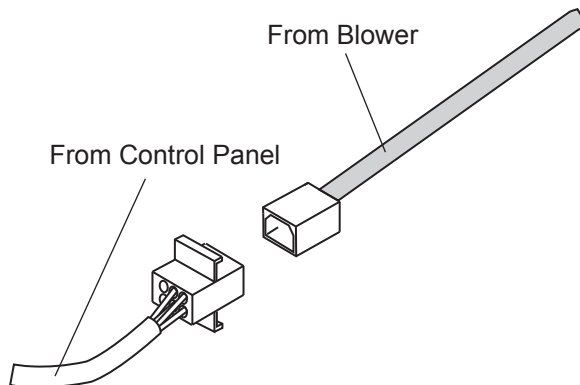

Figure 7: Wiring the Hood with an Integral Blower
3. Connect the blower's Molex plug connector to the connector present inside the hood, as shown in *Figure 7*.
- Lost or missing wire nuts should only be replaced with spring type wire nuts rated for a minimum of two (2) #18 gauge wires and maximum of four (4) #14 gauge wires, UL & CSA rated to 600V and 302°F (150°C.)